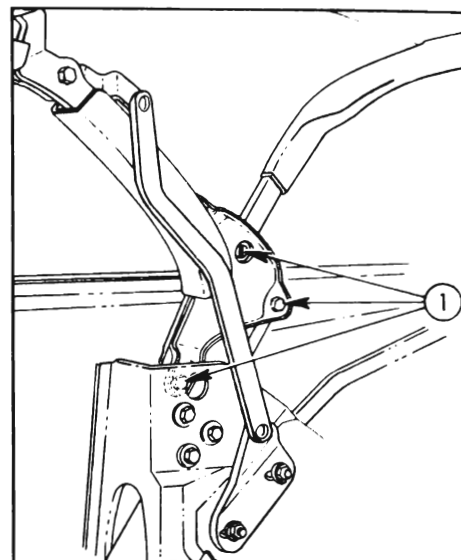

Figure 1-20—Folding Top Linkage Lubrication
**15. Convertible Top Linkage.** Apply a sparing amount of light engine oil to areas shown in Figure 1-20. Wipe off excess.